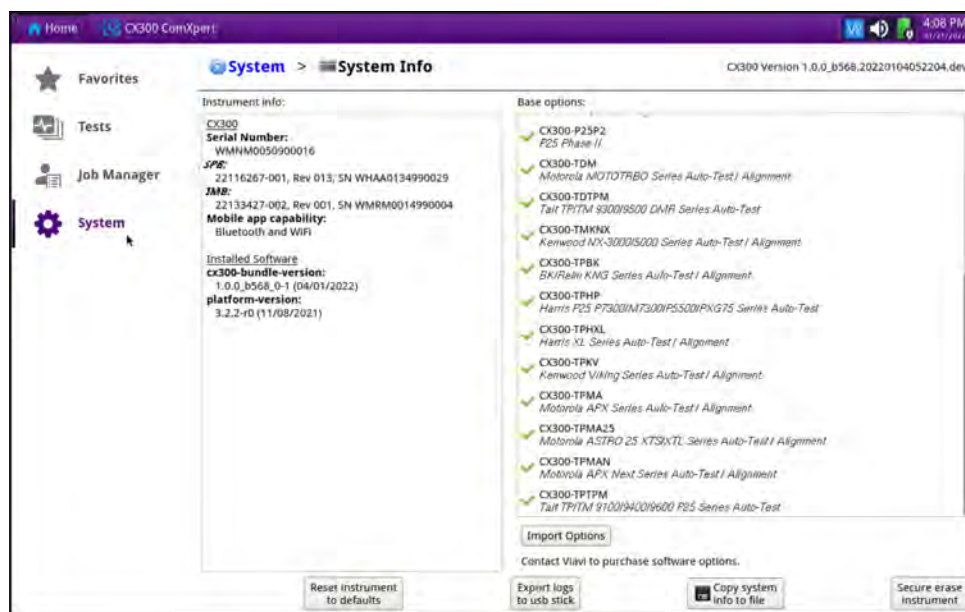

Figure 1-1 Example of System Info Screen
2. Navigate to the System Info Screen. See Figure 1-1.
3. Select the **Import Options** button. See Figure 1-1 and Figure 1-2.